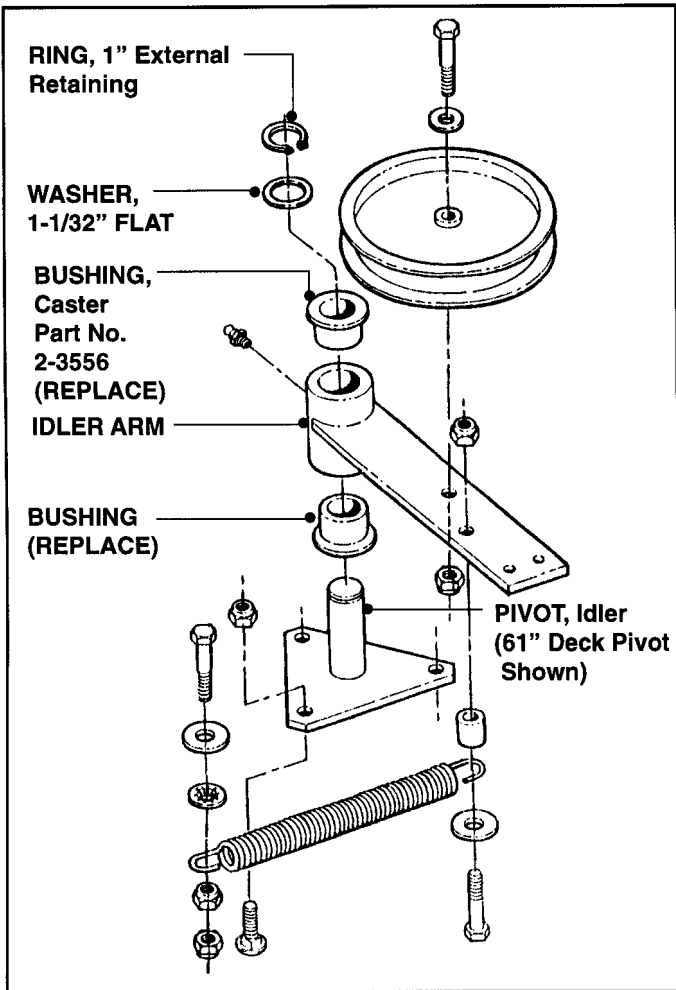

FIGURE 8.19
6. If the Idler Arm is still difficult to pivot, remove it from the Pivot and check the Bushings and Pivot Shaft for damage. See Figure 8.19. Replace parts as required.